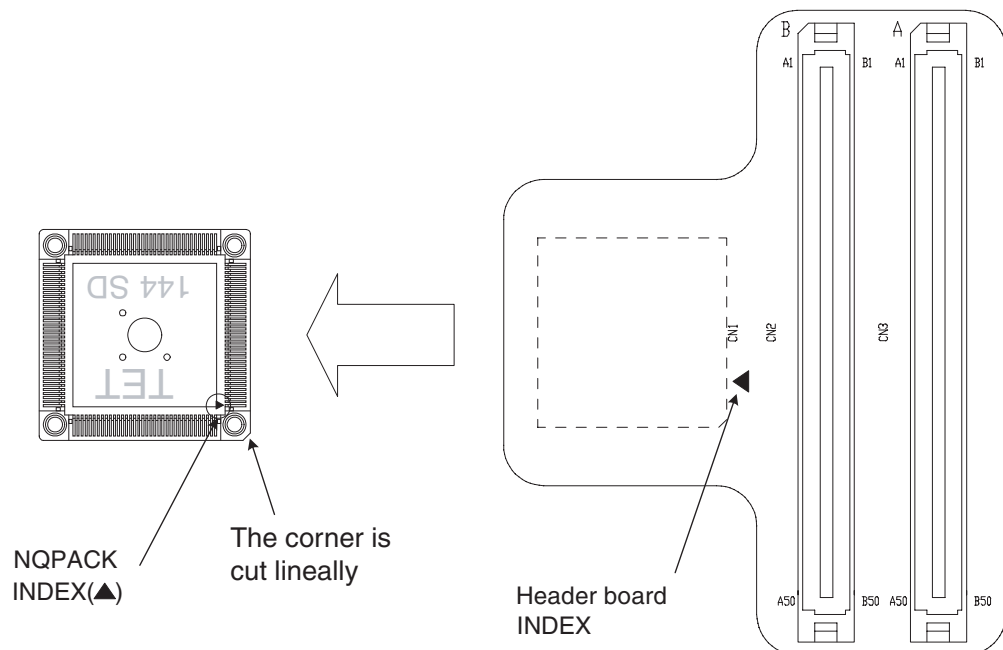

Figure 3 NQPAK index position
1. To connect the header board to the user system, match the index mark (▲) (the corner is cut lineally) on the NQPACK mounted on the user system with the index mark (▼) on the header board, and then insert it. Next, secure the header board with four screws (see Figure 3).